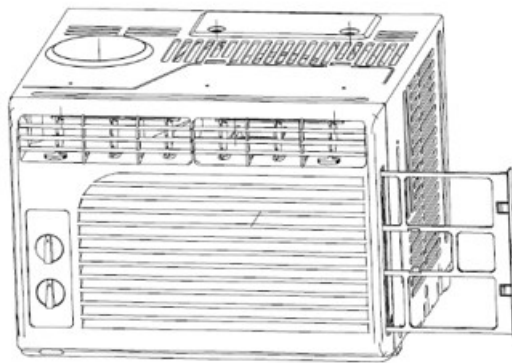

FIG. 5
1. Remove the filter by sliding out from the front right side of the unit (See FIG. 5).